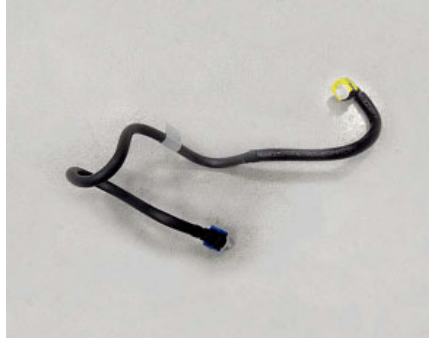

Fig.18
13. Replace the old fuel delivery line on the engine with the new fuel delivery line from the kit as shown in Fig.18.